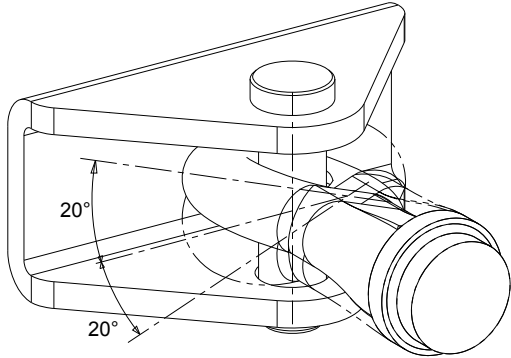

Figure 3 — Angle of roll
- a) **Rotation around a vertical axis passing through the coupling point, minimum value of 60° on both sides (see Figure 3).**